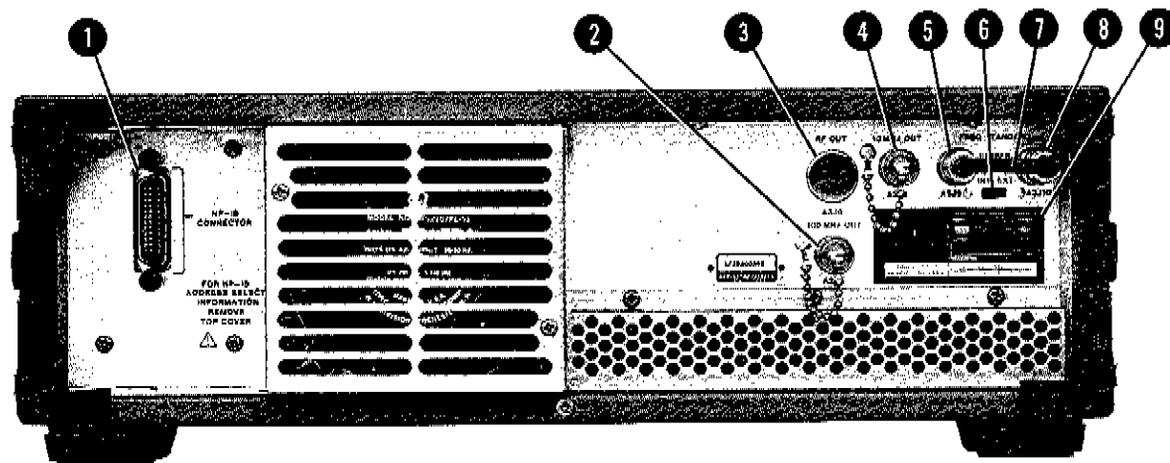

Figure 3-2. Rear Panel Controls, Connectors, and Indicators
3-7. The only maintenance the operator should normally perform is the replacement of the primary power fuse (F1) located in the Line Power Module Assembly **9** (A3A11) shown in Figure 3-2. For instructions on how to change the fuse, refer to Section II, Line Voltage Selection.
- INTERNAL REF OFF:** indicates when the rear panel INT-EXT switch **6** (see Figure 3-2) is in the EXT position when lit.
1. Check that the LINE switch **8** (Figure 3-1) is in STANDBY and remove the power cable from the Line Power Module **9** (see Figure 3-2).
2. Check that Line Power Module **9** (see Figure 3-2) is set to the nominal line voltage to be used and that the fuse is the correct value and type.